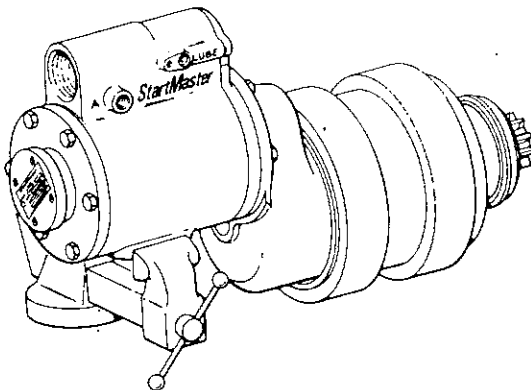

Figure 5.2
1. Remove the muffler (1), muffler retaining assembly and sleeve lockwasher.
2. Clamp muffler flange in vise equipped with copper jaws. See Figure 5.2.